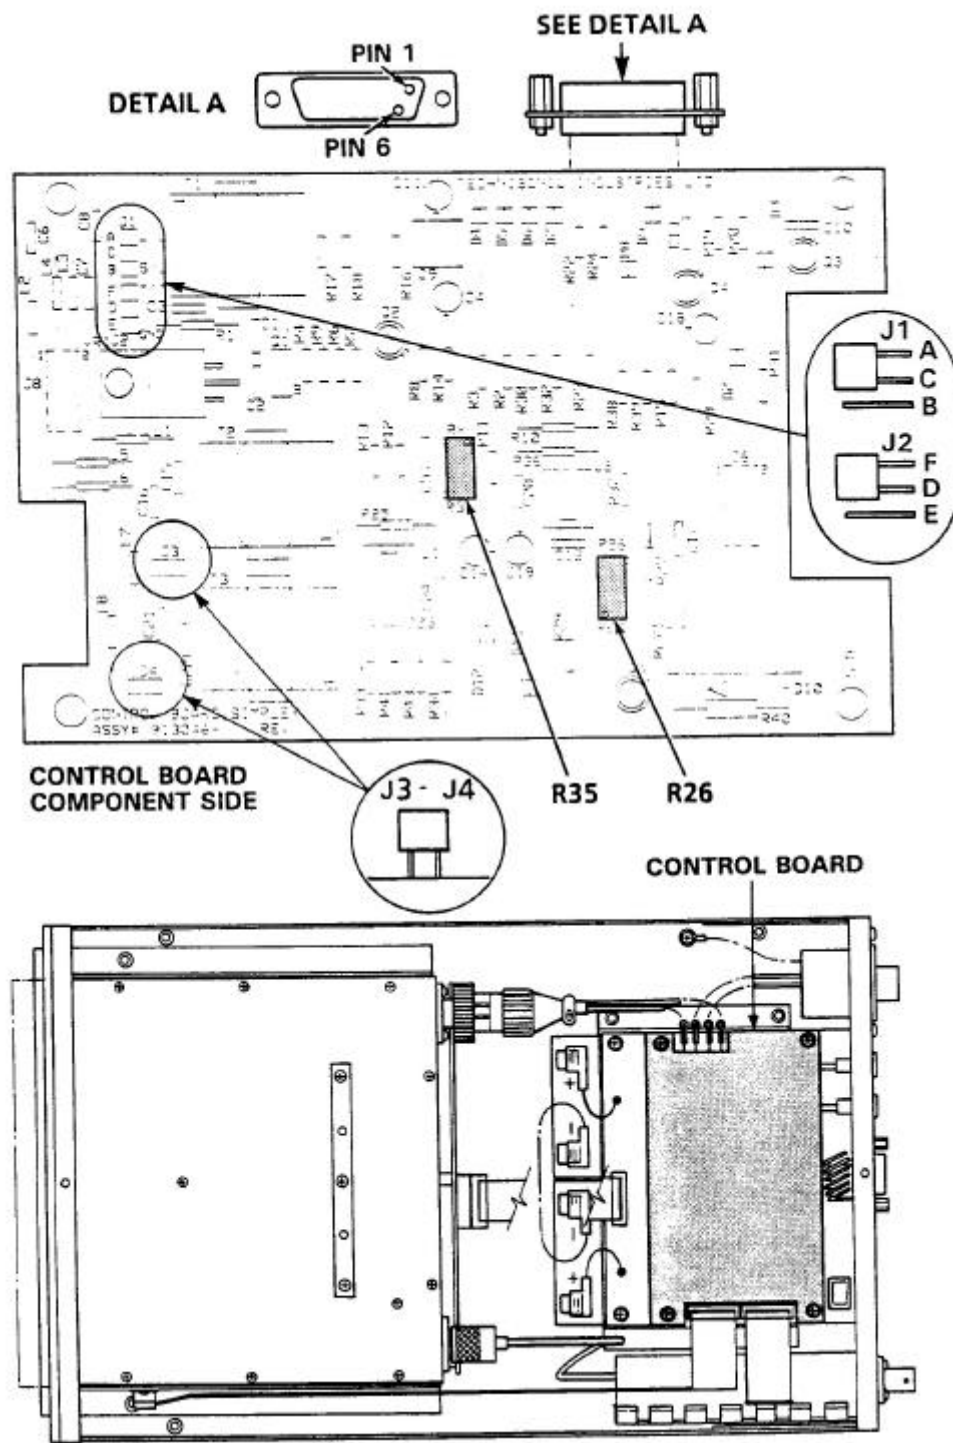

Figure 2-3 Remote Operation - Jumper Locations
- (2) Position Jumpers on Control board as indicated in Table 2-2. Refer to Figure 2-3 for jumper locations.